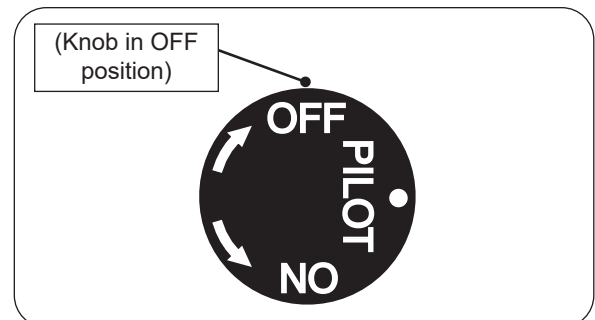

Fig. 35-2 Pilot shut down
2. Locate the valve on the side of the unit. Push in the gas control knob slightly and turn clockwise to **OFF** (see Fig. 35-2).
Push in the control knob slightly and turn clockwise to **OFF**. Do not force. See Fig. 35-2.